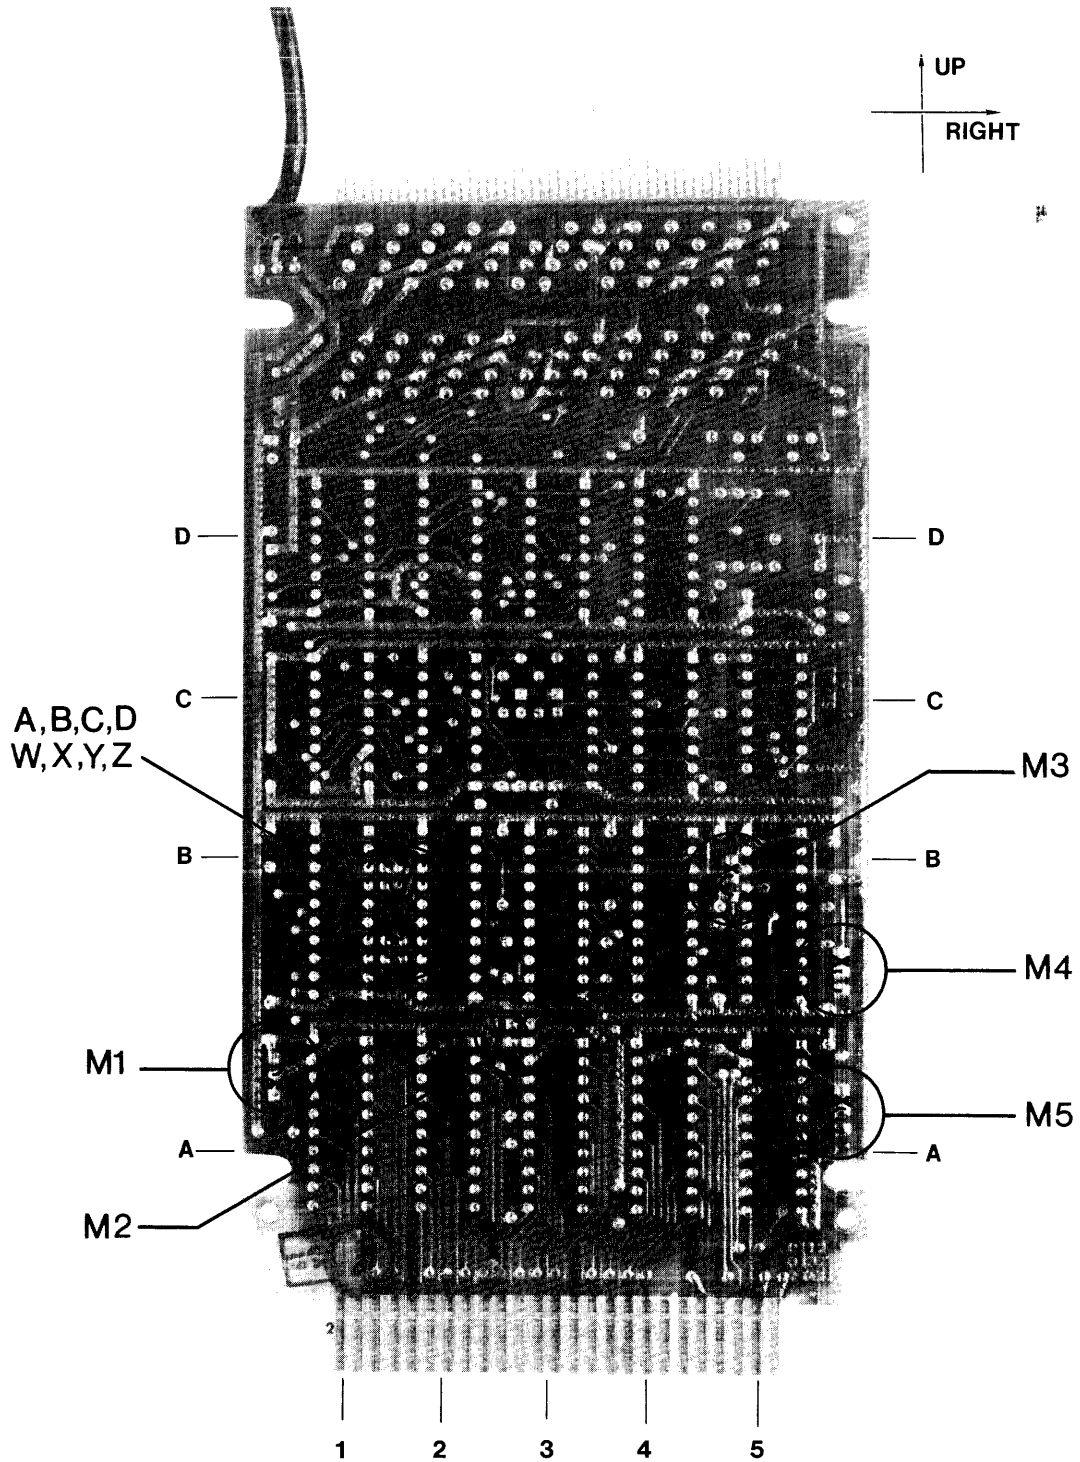

Figure 3.8 View of component side of K100-D/32 Input Adapter board. Jumper areas are etched on the board's surface.
Figure 3.8 shows the physical locations of all the jumper areas indicated in Table 3.2 from the component side of the adapter board. Each jumper area is circled and labeled to match Table 3.2 and the jumper locations, row, and column markings are etched onto the board's surface. **The cutting of existing traces and soldering of new jumpers must, of course, be done from the opposite, or solder side of the board, which is shown in Figure 3.9.** Again the jumper areas are circled and labeled to match Table 3.2. **Since this is the side that you'll be working with, it is also the side that the jumper positions are referenced for (Up, Down, Right, or Left) in the table.** Figure 3.8, the top view, is included only to add clarity and help you locate the jumper positions. Similarly, Figure 3.10, which shows the jumper areas as they appear on the schematic of the 32-channel adapter, is included so that you can understand the effects of the various modifications.
Figure 3.10 K100-D/32 Input Adapter Schematic. Jumper areas for OR clocking and demultiplexing are circled and labeled as referenced in Table 3.2, Figure 3.8, and Figure 3.9.
1. All jumper connections are referenced from the solder side of the adapter board with the cable connections at the top (Up) and the edge connector at the bottom (Down). The Primary Jumper connections should be made from the center point to the adjacent point indicated in the table (Up, Down, Right or Left). "Up," for example, means jumper Center to Up and cut Center to Down. This orientation is shown below and is duplicated in Figures 3.8 and 3.9.